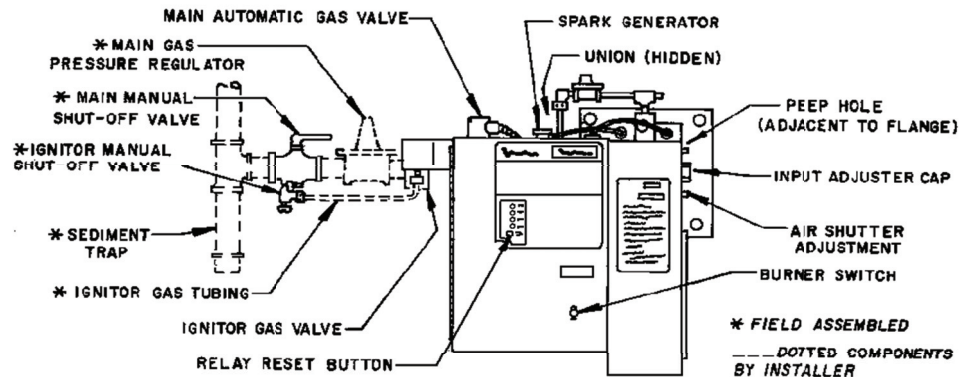

Figure 3 - Control Components (RM7800)
Use pipe joint compound resistant to liquid petroleum gases when using either NATURAL or PROPANE gas. Piping must comply with the local and national codes. If the burner piping must be rearranged because of space limitations, be sure to carry out the general configuration shown in Figure 3.
10. Remove the Input Adjuster Cap (see Figure 3) and turn the Main Gas Input Adjusting Screw until the desired input rating is reached (refer to Table 2 or 3). Turning of adjustment screw counterclockwise increases gas flow; clockwise reduces gas flow. If Main Flame gas pressure requires adjustment, refer to Section V Piping.